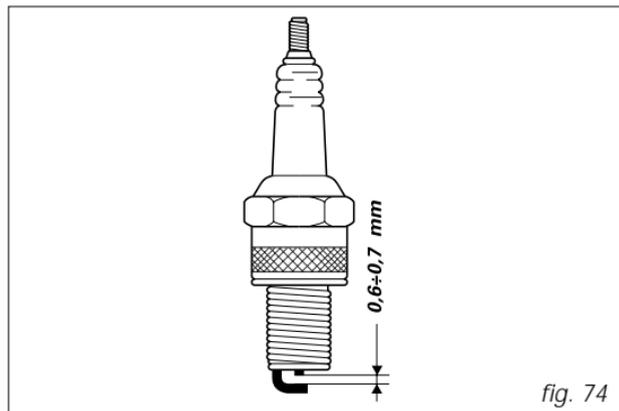

fig. 74
*Cleaning and replacing the spark plugs (fig. 74)*